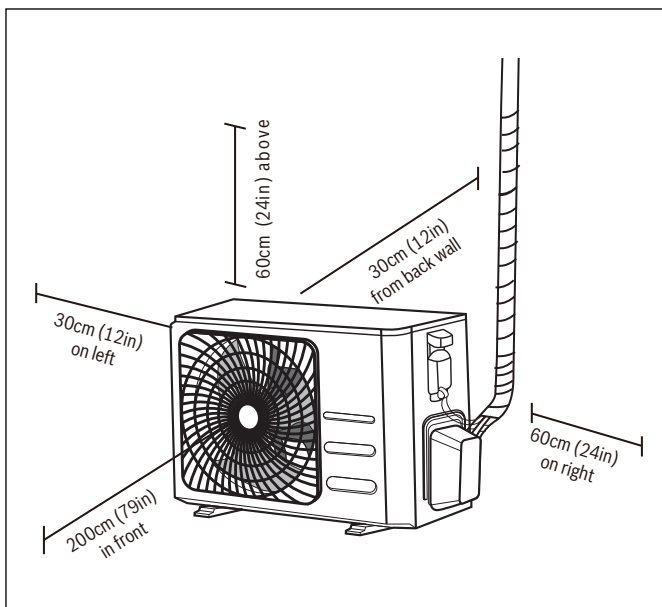

Figure 19
- Meets all spatial minimum requirements shown in Installation Space Requirements (Figure 19)